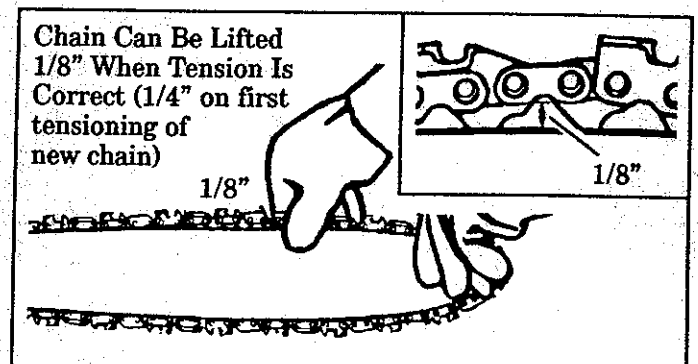

Figure 11
2. Check the tension by lifting the chain from the guide bar at the center of the bar. Figure 11.
5. Recheck chain tension. Figure 11.